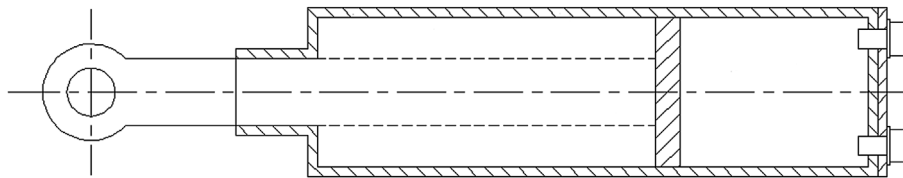

FIGURE 8.30 Hatching side view.
Step 10. Add the bolt projections, as seen in Fig. 8.30 (the depth into the side view can be approximated). Finally, add hatch patterns, using the Angle option to reverse the hatch directions, which is a common technique in mechanical design to differentiate the parts from each other in a cross section.